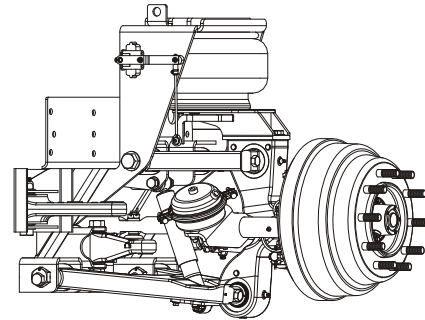

Figure 9 - Steering Arms
2. Start vehicle engine. Oscillate the steering wheel and observe the motion of the steering arms (**Figure 9**). The steering arms should not exhibit any noticeable conical motion about their pivot axes.